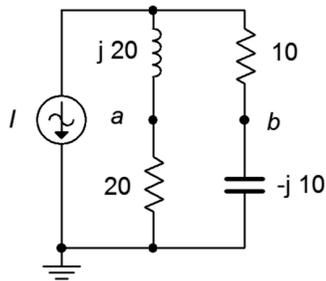

Figure 4.20
32. For the bridge circuit of Figure 4.20, determine  $v_{ab}$ . The source is 6 amps peak.